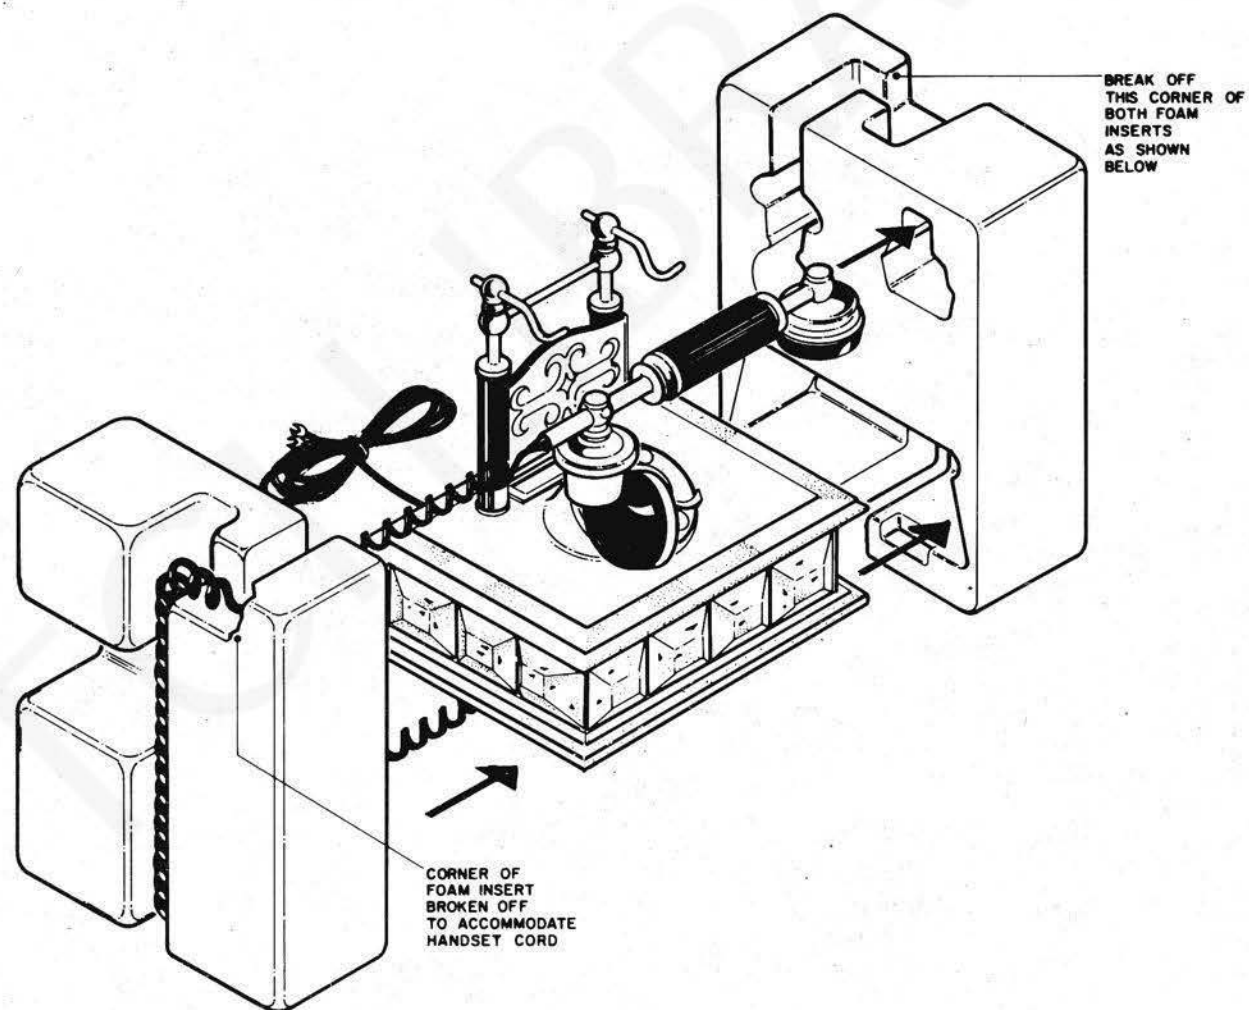

Fig. 17 — Cradlephone Packing Instructions
- (iv) Gather the mounting cord as shown in Fig. 17, place the cord and the spade tips in a plastic bag and secure with an elastic band. Lead the cord up at the center rear of the set and place it on top of the set housing.